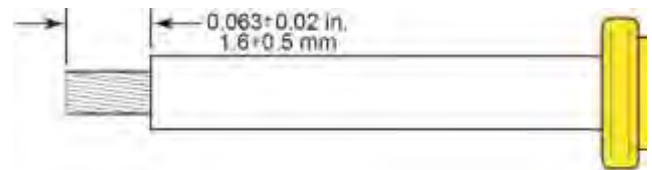
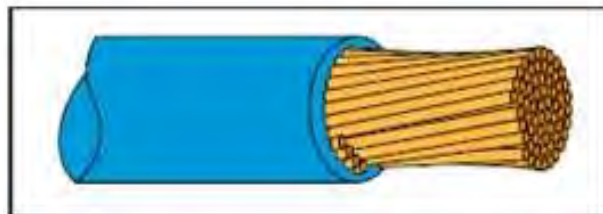

Figure 123
Figure 124
- (2) Strip 0.063 ± 0.02 inches (1.6 ± 0.5 mm) of insulation from wire (Figure 123).
- (3) Inspect wire strands as follows:
- Broken, nicked, or cut strands as listed below and shown in Figure 124.